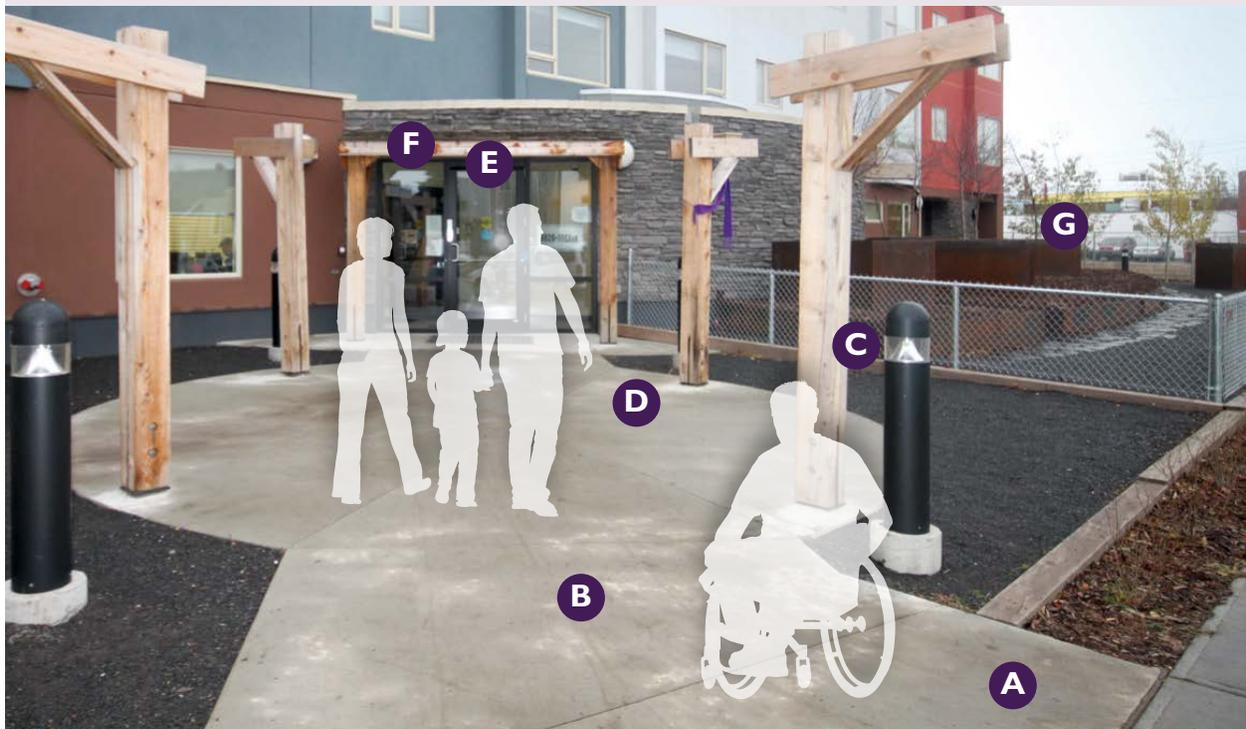

Figure 1: Building approach
Universal design (UD) features in Figure 1: